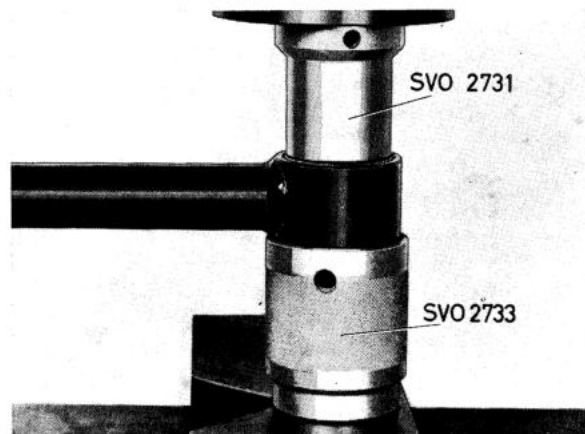
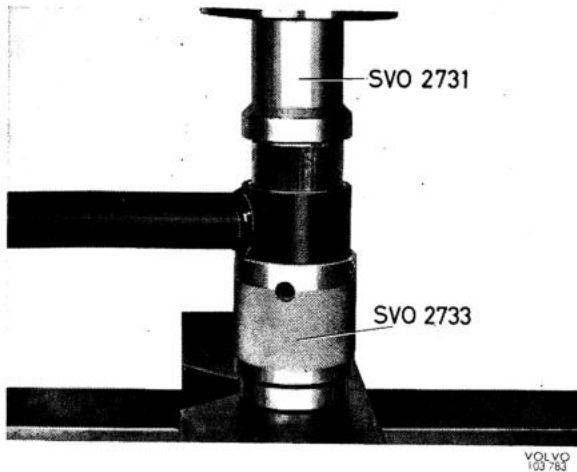

Fig. 7-13. Removing the large bush, track bar
Fig. 7-14. Fitting the large bush, track bar
4. If necessary, press out the small bushes with SVO 2730 using SVO 2733 as a counterhold (Fig. 7-13). Pressing in the bushes can be done with the same tools only in this case SVO 2730 is reversed (Fig. 7-14).